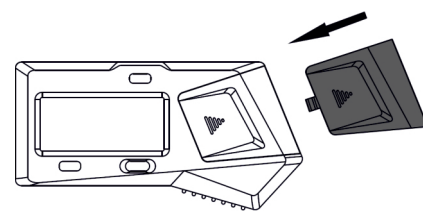

Fig. 3
- » Replace the battery cover (Fig. 3).